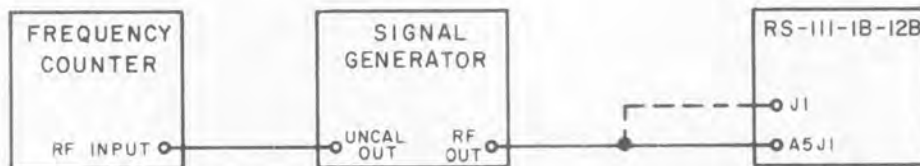

Figure 4-7. Test Setup, Signal Monitor Performance Tests
- (1) Connect the equipment as shown in Figure 4-7.